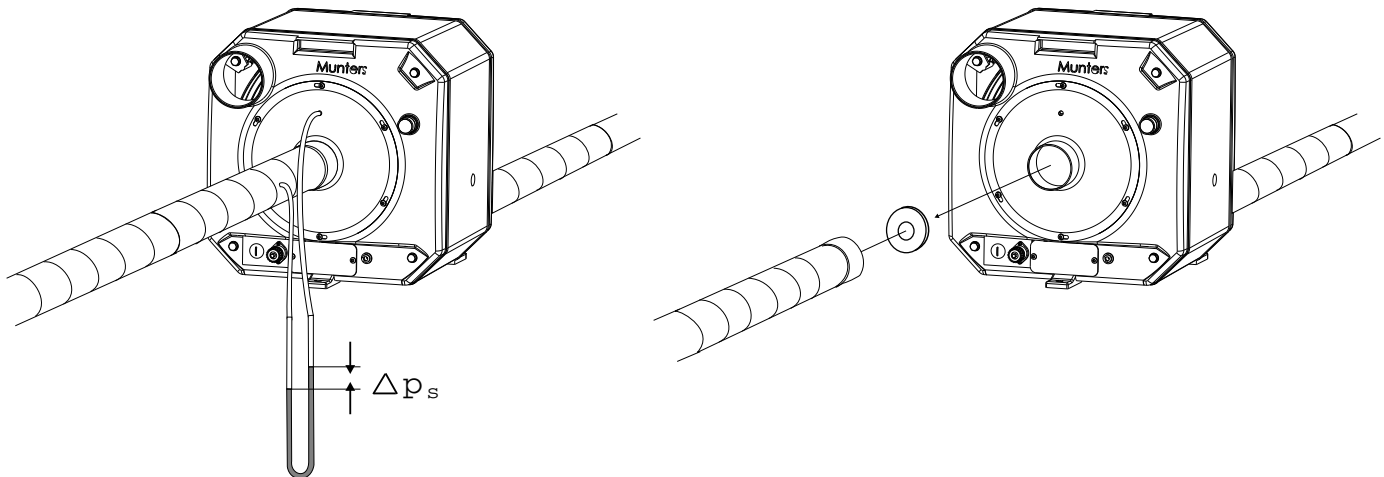

Figure 4.8 Measuring the pressure drop
- Connect a manometer to the pressure tapping point for the reactivation air. If the dehumidifier is connected to the duct, a hole is made in the duct near the dehumidifier to provide a connection point for the manometer, see *Figure 4.8*.